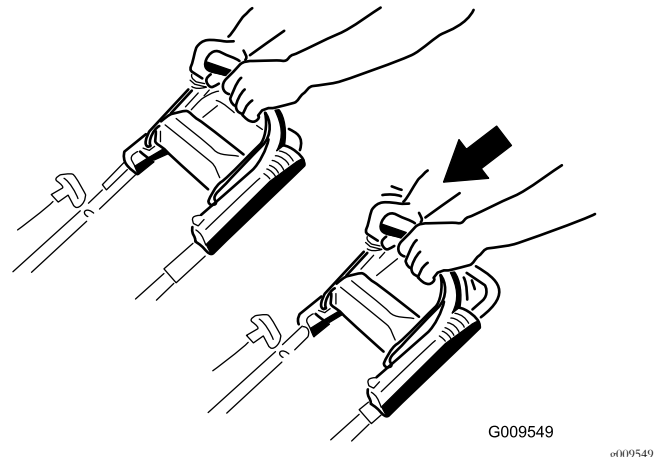

**Figure 14**
1. Hold the blade-control bar against the handle (Figure 14).